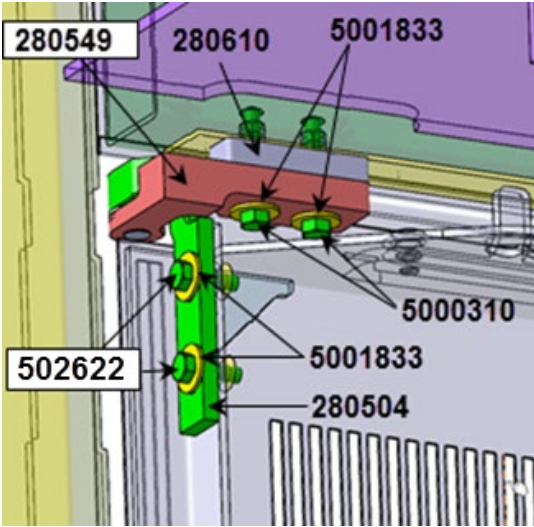

FIGURE 5: NEW UPPER HINGE
4. Install the new upper hinge (parts **280504**, **280549** & **280610** in kit Figure 5) making sure that:
- New M6 bolts and washers (**5000310** & **5001833**) are used at the upper (vehicle structure) mounting points (Figure 5).
- New M6 bolts (**502622** & **5001833**) are used at the door mounting points (Figure 5).